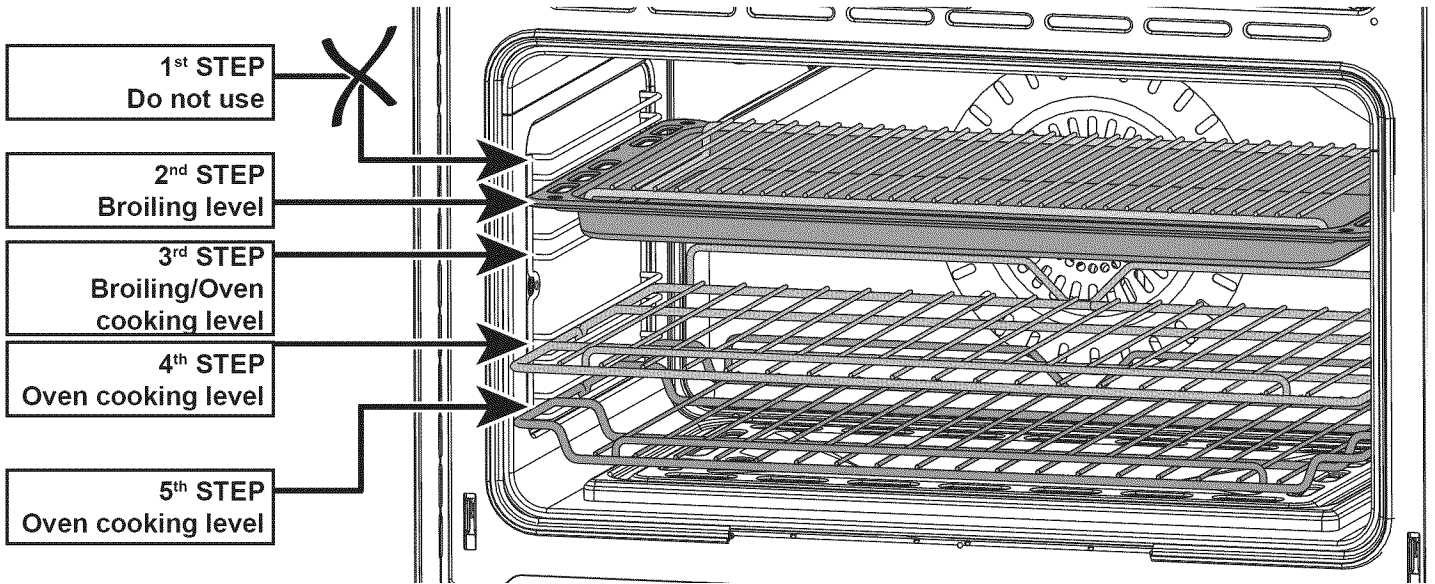

Fig. 3.5
- Position the broiling pan (oven tray and grill rack) on the second level from the top (fig. 3.5).